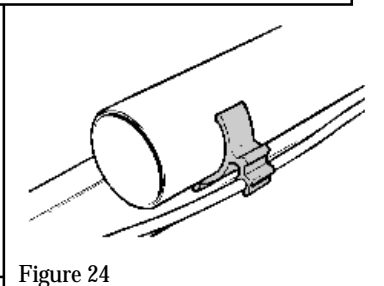

Figure 24
8.10 Fit the fan cable into the "C" sections at the bottom of the support brackets (see figure 24).